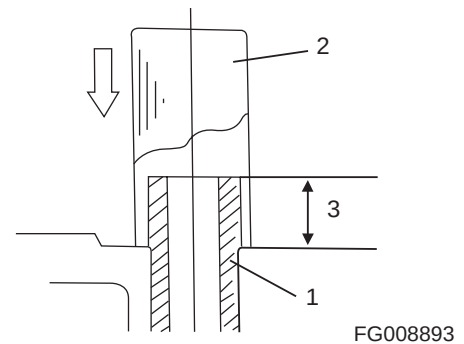

Figure 147
3. Finish installing the valve guides (1, Figure 147) into the cylinder head to the proper height (3, Figure 147) using the valve guide installation tool (2, Figure 147). See "Intake / Exhaust Valve and Guide" on page -95.